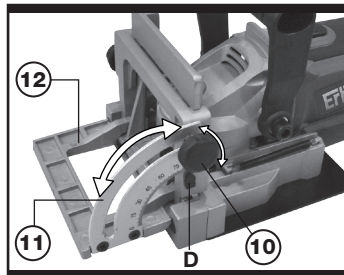

Fig. 3
3. SETTING THE CUTTING ANGLE (See Fig.3)